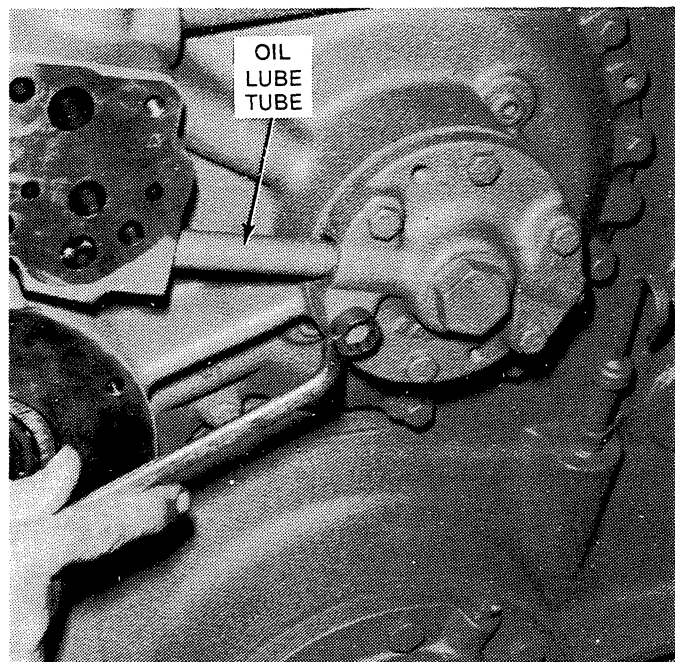

Figure 6-7. Removing or Installing Bearing Retainer over Rear of Forward Shaft.
5. Remove six hex-head screws from the bearing retainer at the rear of the input shaft. See Figure 6-7.